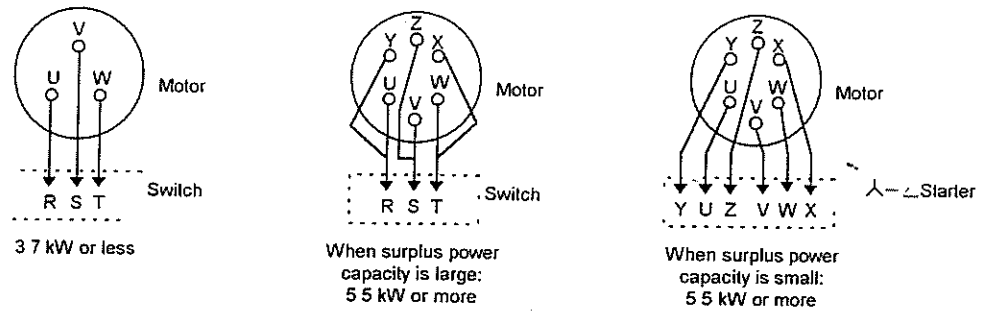

Fig. 4 Wiring Diagram
(1) Perform wiring according to Fig 4 below